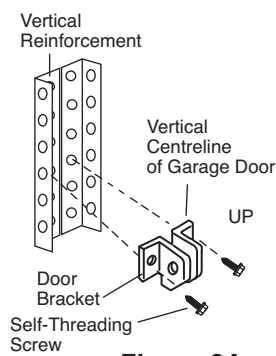

Figure 2A
- Drill 4.5 mm fastening holes. Secure the door bracket using the two self-threading screws (Figure 2A).